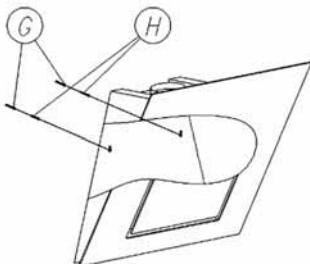

Fig. 5
3. Open the filter casing (D) and remove the fat (or carbon) filter.
6. Mount the unit using the supplied wall plugs (G) and screws (H) at the required height (Fig. 5).